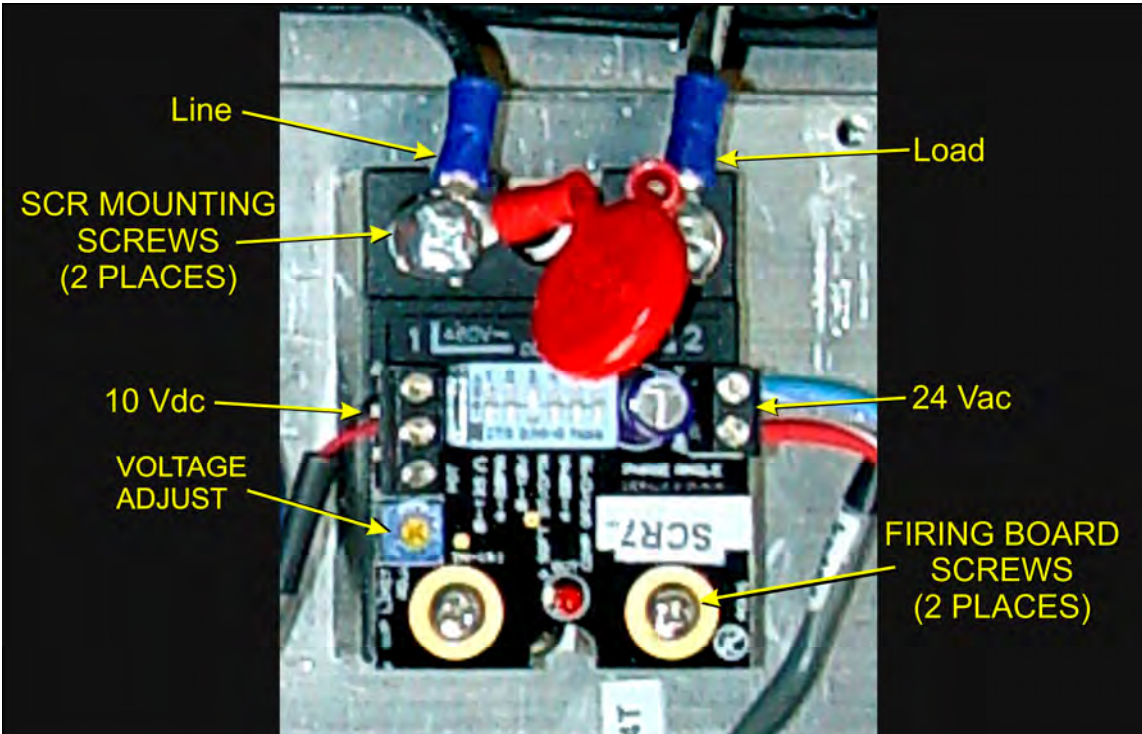

Figure 3-36 SCR installed
To remove the entire SCR assembly, disconnect the 10Vdc and the 24 Vac wire pairs. Unscrew the Line and Load wires. If you are only replacing the firing board, remove the (2) firing board screws. If you are removing the entire assembly, remove the (2) SCR Mounting screws. See **Figure 3-36 SCR installed**